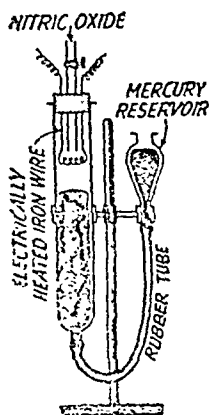

Fig. 42'4—Determination of the formula of nitric oxide.
14. **Formula.**—The formula of nitric oxide is determined by means of the apparatus shown in Fig. 42'4. An iron wire, which can be electrically heated, is suspended in a wide glass tube communicating with a mercury reservoir with the help of a rubber tube.